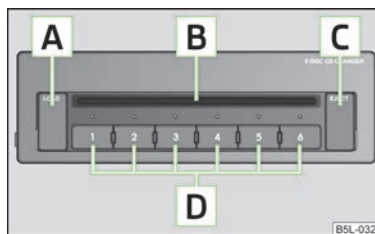

Fig. 114
- Touch the button **C** » Fig. 114 and guide the CD (compact disc) into the CD-case **B**. The CD is automatically loaded onto the lowest free position in the CD changer. The indicator light in the corresponding button **D** stops flashing. ➤
- Press and hold the button **[C]** » Fig. 114 for longer than 2 seconds and guide the CDs one after the other (maximum 6 CDs) into the CD case **[B]**. The indicator lights in the buttons **[D]** stop flashing.
- Press the button **[C]** » Fig. 114. The indicator lights in the buttons **[D]** illuminate the memory spaces that are already assigned and flash in the case of free memory spaces.
- Press the button **[A]** » Fig. 114 to eject a CD. For assigned memory spaces, the indicator lights now illuminate in the buttons **[D]**.
- Press and hold the button **[A]** » Fig. 114 for more than 2 seconds. All CDs in the CD-changer are ejected consecutively.
- Always guide the CD into the CD case **[B]** » Fig. 114 with the printed side facing upwards.